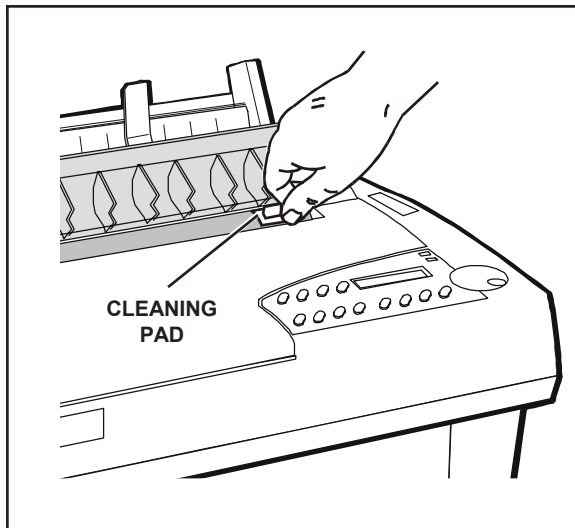

Figure 5-3. Cleaning the Platen and Bail Rollers
3. Using a clean pad moistened with Fedron, wipe the rubber surfaces of the platen and bail rollers until they are dull and clean, as shown in figure 5-3. Use the Select-dial to turn the platen and the Bail button to move the bail.